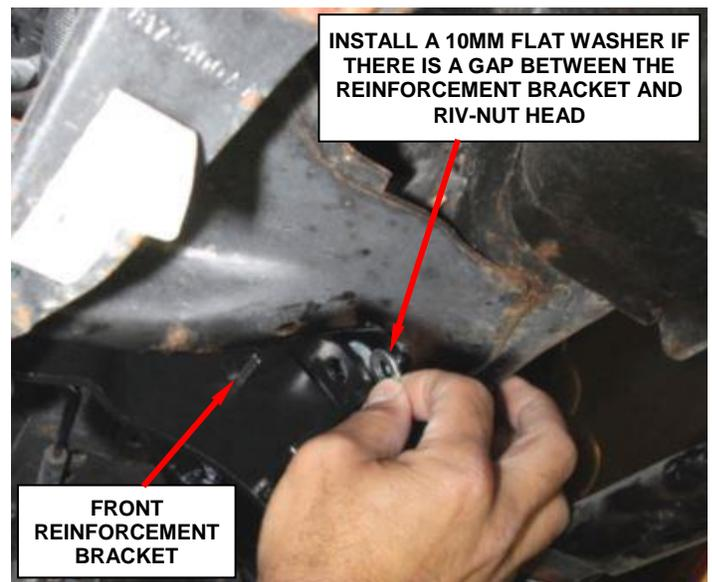

Figure 13 – 10mm Flat Washer Location
17. Rotate the front reinforcement bracket up into position, until it makes contact with the newly installed riv-nut. If a gap occurs between the reinforcement bracket and the riv nut head then install the M10 flat washer between the reinforcement bracket and the riv-nut head (Figure 13).